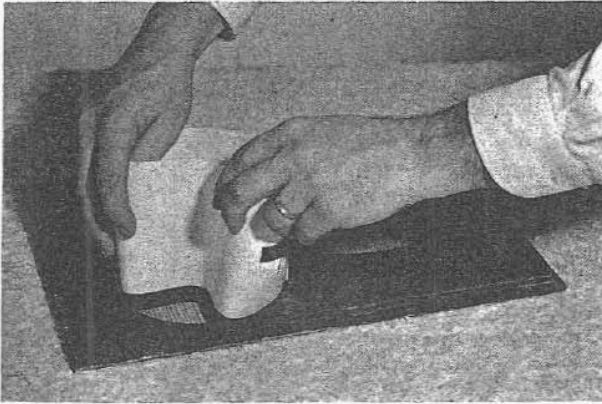

Figure 1A
- Carefully form the tube into a kidney shape (Figure 1A) and insert into reflex port until it "bottoms" on the grille cloth. Permit the tube to relax to its natural shape. Place hand inside of tube and press bulge outward permitting it to snap into place to conform to the port shape. The pressure of the gasket tape is sufficient to hold the duct in place.